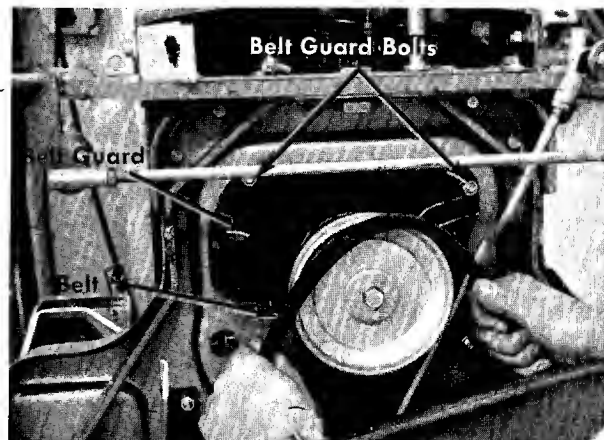

FIGURE 28. REMOVING MOWER BELT
- Step 3. Unhook the belt from the engine pulley. See figure 28.